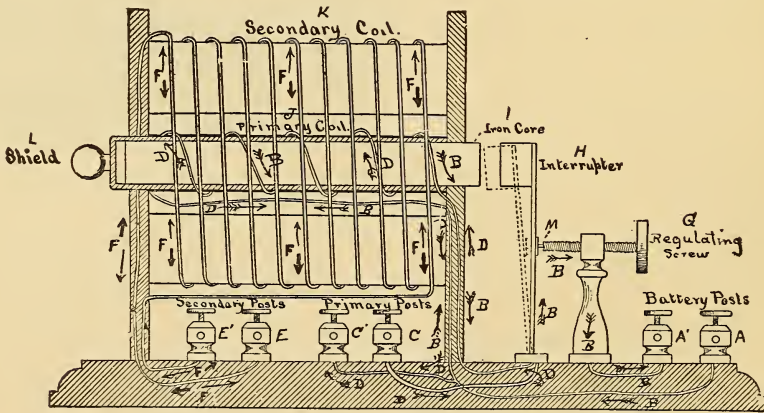

FIG. 1. CONSTRUCTION OF A PHYSICIAN'S INDUCTION COIL.
Look at the diagram (Fig. 1) and follow the course of the wires which start at the two posts (A) and (A'). These two posts represent the two elements (positive and negative) of the battery generating and furnishing the current. The current is constant (galvanic). The wire